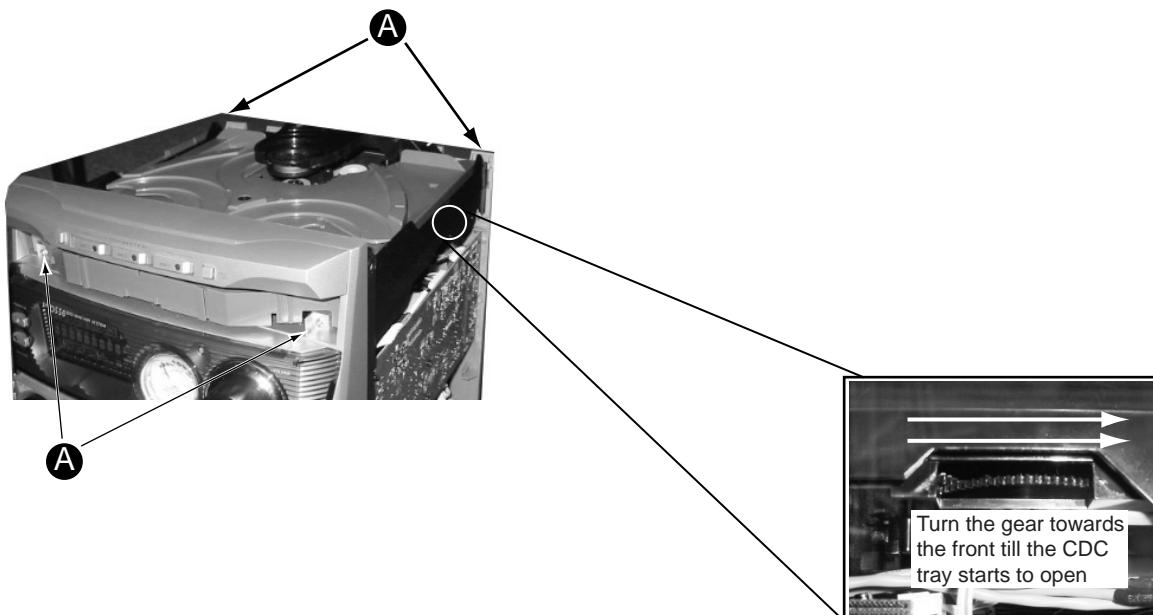

Figure 3
- 1) Loosen the 4 screws, slide Cover top (pos 255) towards the rear and remove it upwards.
- 2) Push the gear slowly towards the front as shown in figure 3 until the CDC tray starts to move out of the Front Cabinet. The CDC tray is now disengaged and can be pulled out completely.
- 4) Loosen 4 screws A to remove the CDC Module (pos 1105) as shown in figure 3.